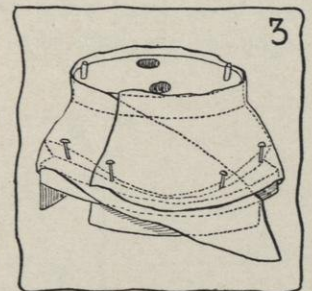

FIG. 3.
- b. To stretch felt or straw at the edge, read and follow Job 3, Section 2 c (page 13), but **lap felt or straw where and as much as desired, and tack or pin in place** (see Figure 3). Always lap the felt or the straw a little more than is needed in order to allow for